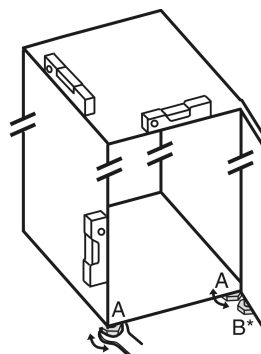

*Fig. 46*
- ▶ Unscrew the adjustable feet *Fig. 46 (A)* using the enclosed open-end spanner and a spirit level until the appliance is firmly aligned and level.
- ▶ Unscrew the adjustable foot *Fig. 46 (B)* on the swap bearing block with the enclosed open-end spanner until it rests on the floor.
- ▶ Turn the adjustable foot *Fig. 46 (B)* 90° further.